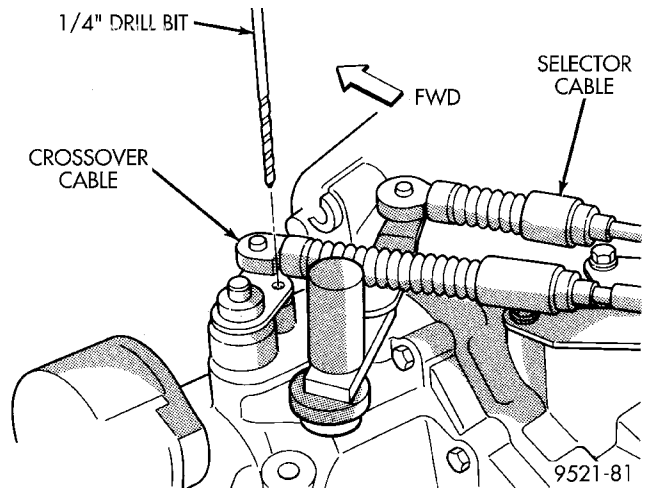

Fig. 16 Crossover Lever Pin Procedure
(3) Pin transaxle crossover lever in 3-4 neutral position using a 1/4 inch drill bit. Align hole in crossover lever with the hole in the boss on the transaxle case (Fig. 16). Be sure drill bit goes into transaxle case at least one half inch.
(4) The shifter is spring-loaded and self-centering. Allow shifter to rest in its neutral position. Torque adjustment screw to 8 N·m (70 in. lbs.). Care must be taken to avoid moving the shift mechanism off-center during screw tightening.